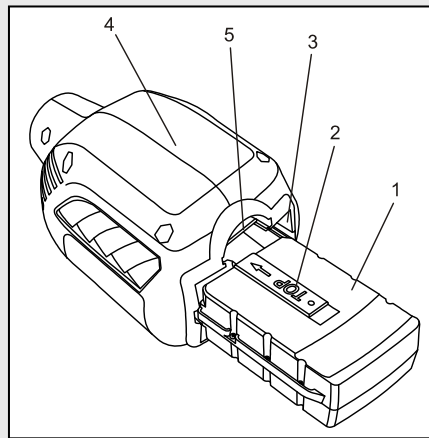

Fig. 11
1. Position the Power Cell (1) with the "TOP" label (2) facing upward (Fig. 11).
2. Slide the Power Cell into the matching cavity (3) in the rear of the upper cowl (4).